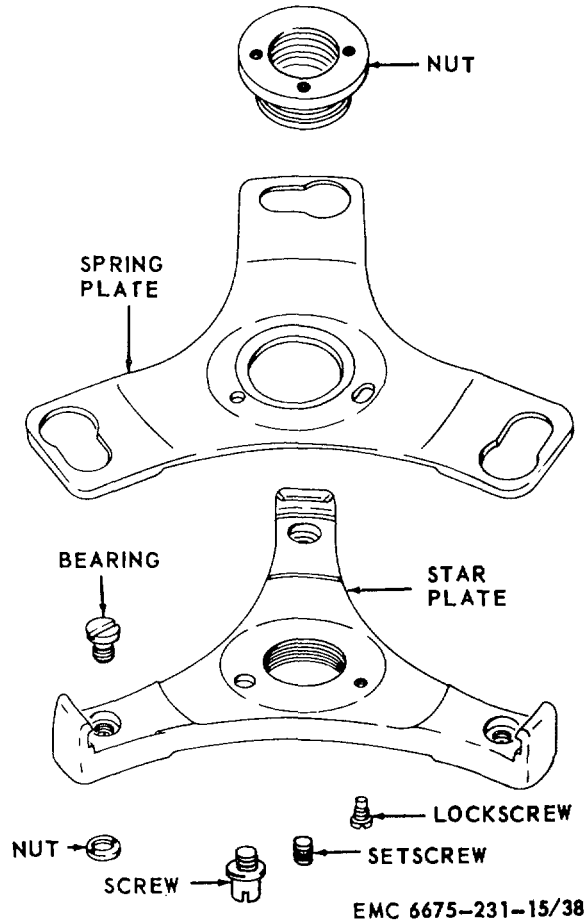

Figure 40. Star plate, disassembly and reassembly.
b. *Disassembly.* Refer to figure 40 and disassemble the star plate.
- (1) Clean all metal parts with an approved cleaning solvent and dry thoroughly.
- (2) Inspect all threaded surfaces for worn or damaged threads.
- (3) Inspect the star plate nut, spring plate, and star plate for bends, cracks, burs, breaks, and worn or damaged bearing surfaces.
- (4) Straighten minor dents and remove burs. Refinish and polish scratched or scored bearing surfaces.
- (5) Replace all defective parts that cannot be repaired.
d. *Reassembly.* Refer to figure 40 and reassemble the star plate.